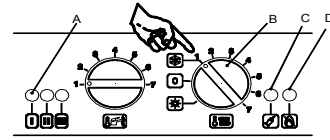

Figure 15.4
- Turn the function selector B as in Fig. 15.4 The appliance operation light A will flash every 2 seconds.
If during the ignition attempt period the boiler fails to light, the full sequence control p.c.b. will go to lockout and the lock-out signal lamp D will appear. To reset the boiler turn the knob B (figure 15.4) on the 0 position and then press and release the boiler reset button C (Fig. 15.4)
With the burner on high flame close the gas cock. After three ignition attempts (within about three minutes), the lock-out signal lamp must appear (D on Figure 15.4). To reset the boiler turn the knob B (figure 15.4) on the 0 position and then press and release the boiler reset button (C on Figure 15.4).